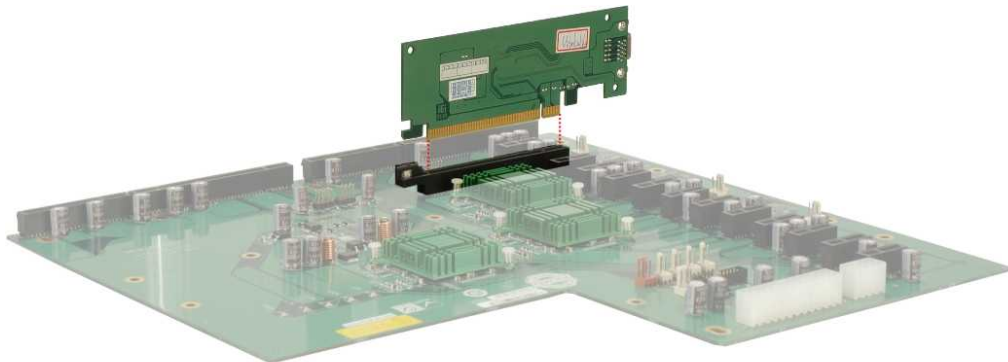

Figure 5-16: PCIe x16 Installation
Step 2: Align the edge connectors on the bottom of the PCIe x16 graphics card with the socket. See **Figure 5-16**.